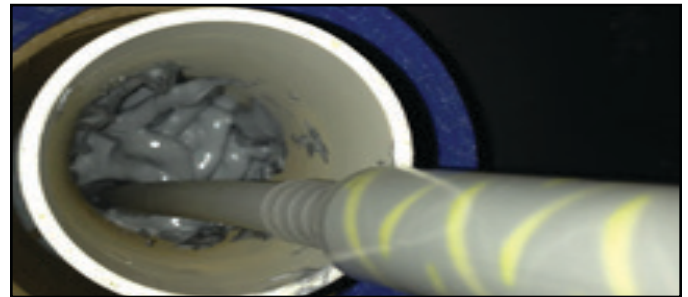

Figure 3
Pump/Motor/Nozzle Assembly (See Figures 3 & 4)
STEP 3: Apply the silicone lubricant on the groove coupling gasket. Slide the coupling/gasket on the end of either the nozzle or the pump discharge pipe. **(See Figure 3)**
STEP 3: Take pvc sleeve and fill half way with epoxy. Push wires all the way to the bottom to ensure crimps are covered with epoxy. (See Figure 3)